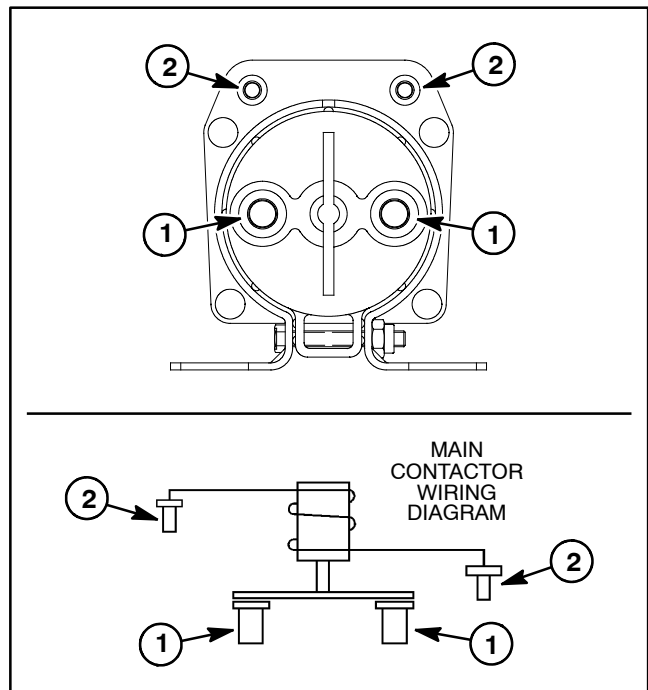

Figure 42
4. Using jumper wires, apply 48 VDC directly across the contactor coil posts (Fig. 42). The contactor should click as voltage is applied. With the contactor coil energized, resistance across the main contact posts should be less than **1 ohm**.
6. With voltage removed from contactor coil posts, measure resistance across the coil posts (Fig. 42). The resistance should be approximately **126 ohms**.